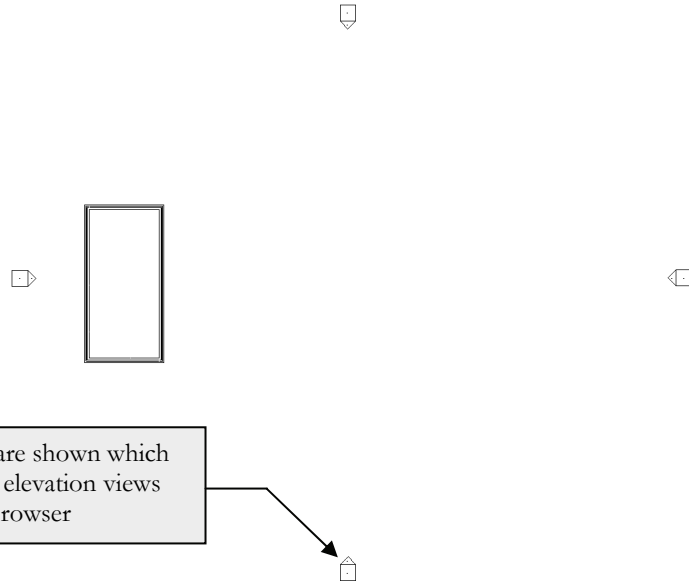

FIGURE 7-1.1 Bldg. and Elev. tags
5. Using the **Wall** tool and wall *Type* set to “**Exterior - Brick on Mtl. Stud,**” draw a **40'-0" x 20'-0"** building (Figure 7-1.1).